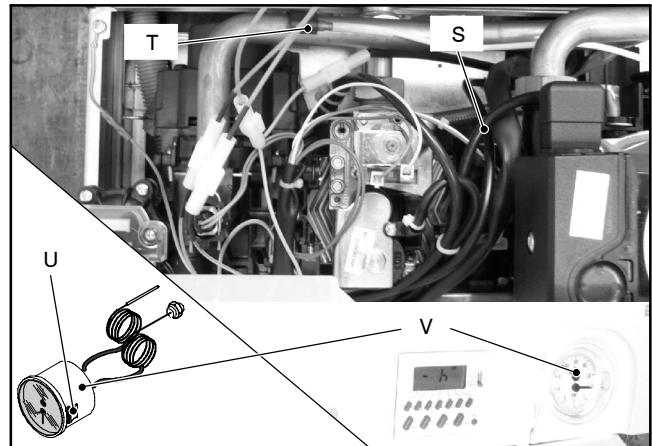

Fig. 67
- 2 Remove the fork *S* and the probe holder spring *T* (Fig. 67).